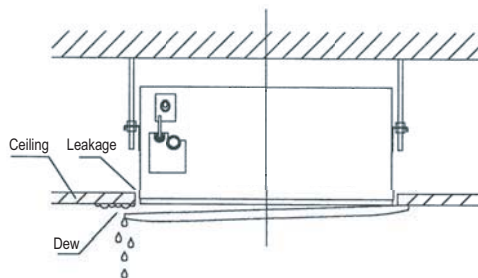

Fig.5-13
- Malfunction described in Fig.5-13 can be caused by inappropriate tightness the screw.